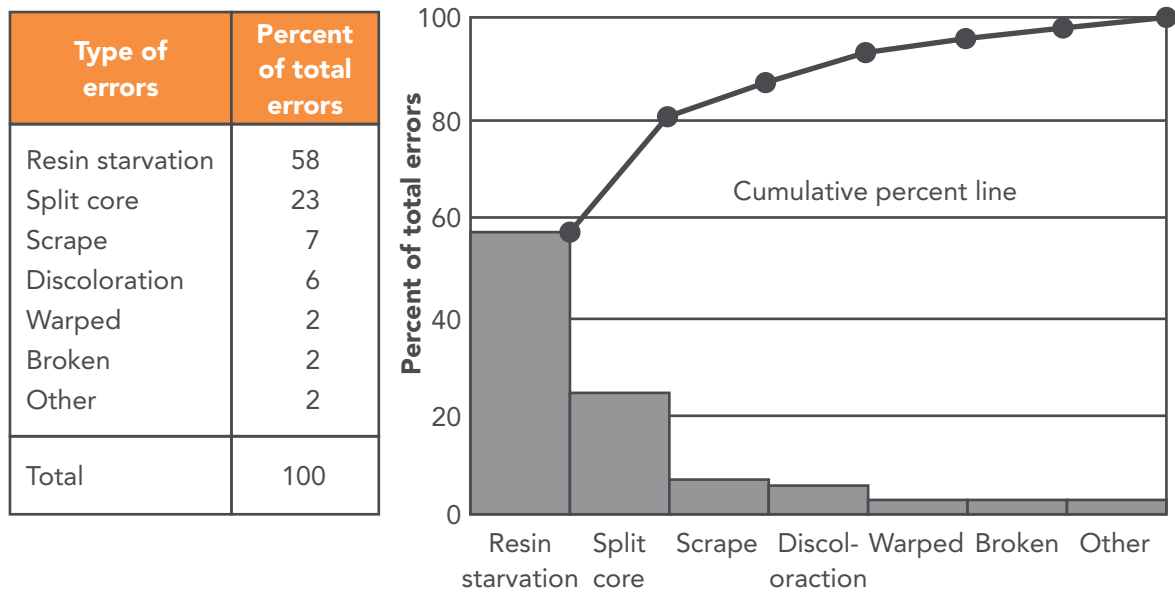

Figure 2.3.3a Pareto chart for the explored reasons for the rejected crushed core panels
- As a rule, start to work on one of the tallest bars (e.g., resin starvation) in Figure 2.3.3a. Construct a new Pareto to describe its components. Continue to break down the components until elementary levels are reached (see Fig. 2.3.4a). Working problems at the most elementary levels will result in improvement at the higher level.